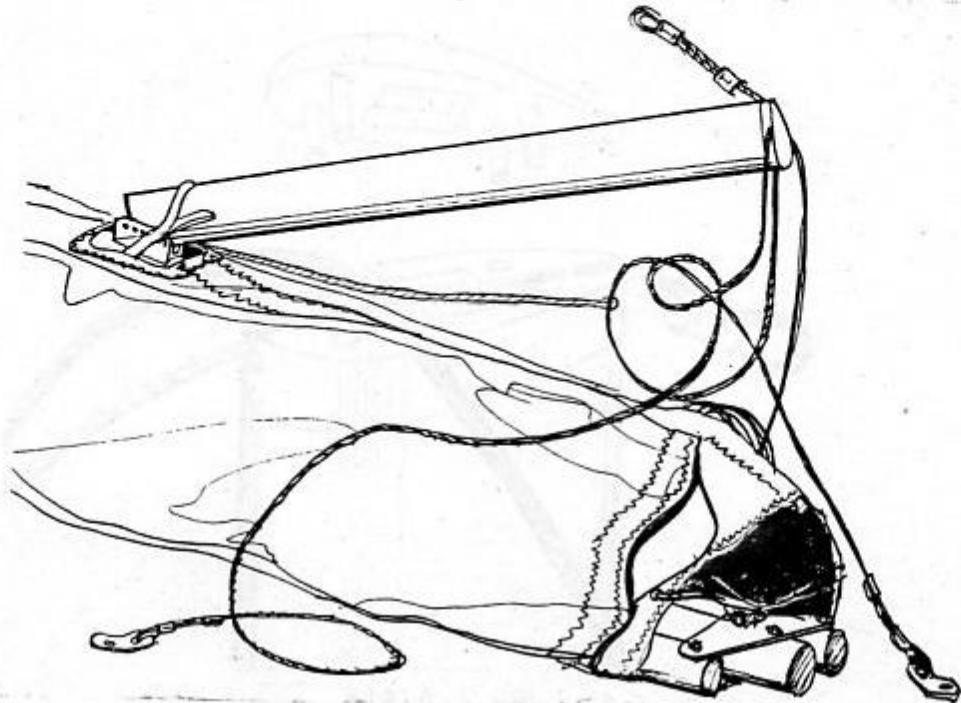
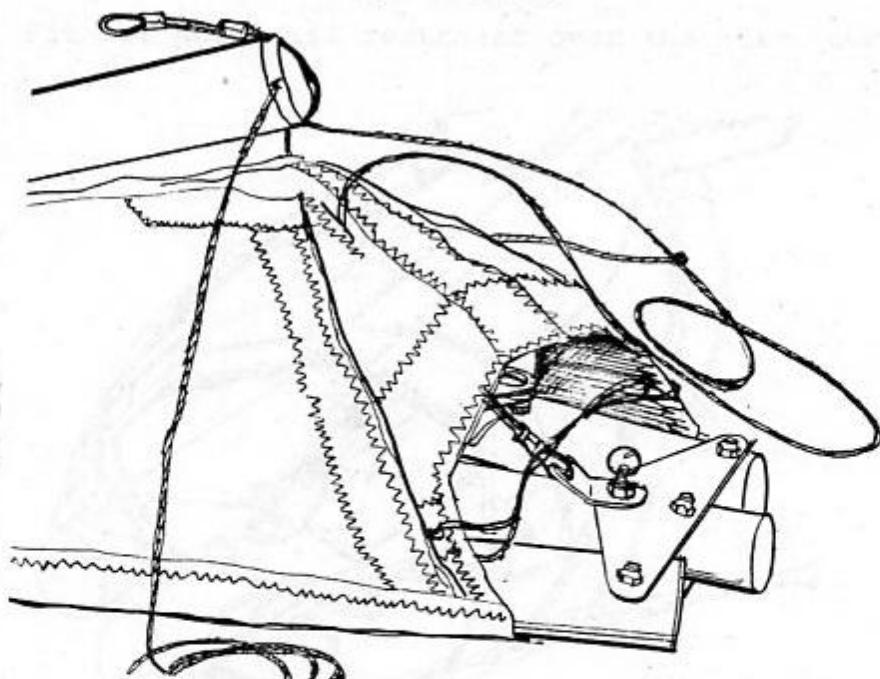

Fig. 3.1.28.
Fig. 3.1.29.
16. Spread the top wires. Put the top front wire through the nose hole in the sail and secure the lug to the bolt of the nose junction using the wing nut and the safety ring (Fig. 3.1.28, Fig. 3.1.29).